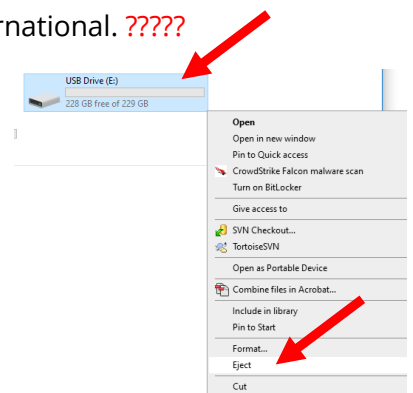

Figure 4
- Go to Explorer (My Computer). Right click on the USB drive. Click Eject (see Figure 4).